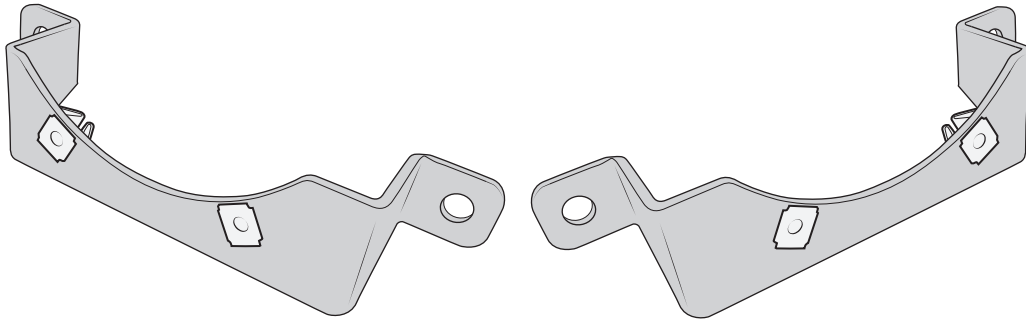

Figure 33
- B. Insert four (4) provided square push-in nuts for each foglight from rear of stamping and bracket as shown (fig. 33).